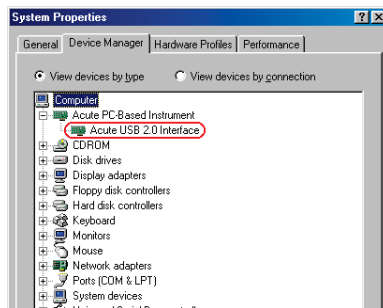

Figure 6
(8) You will see “Acute USB 2.0 Interface” in the Device Manager (Figure 6).